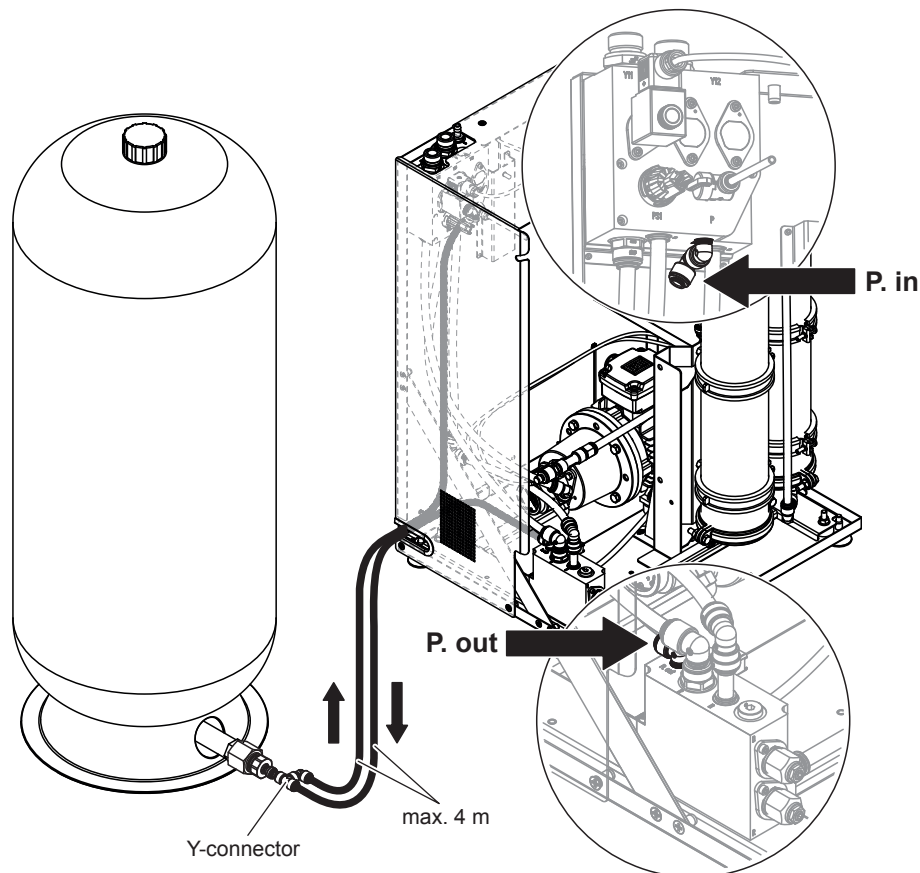
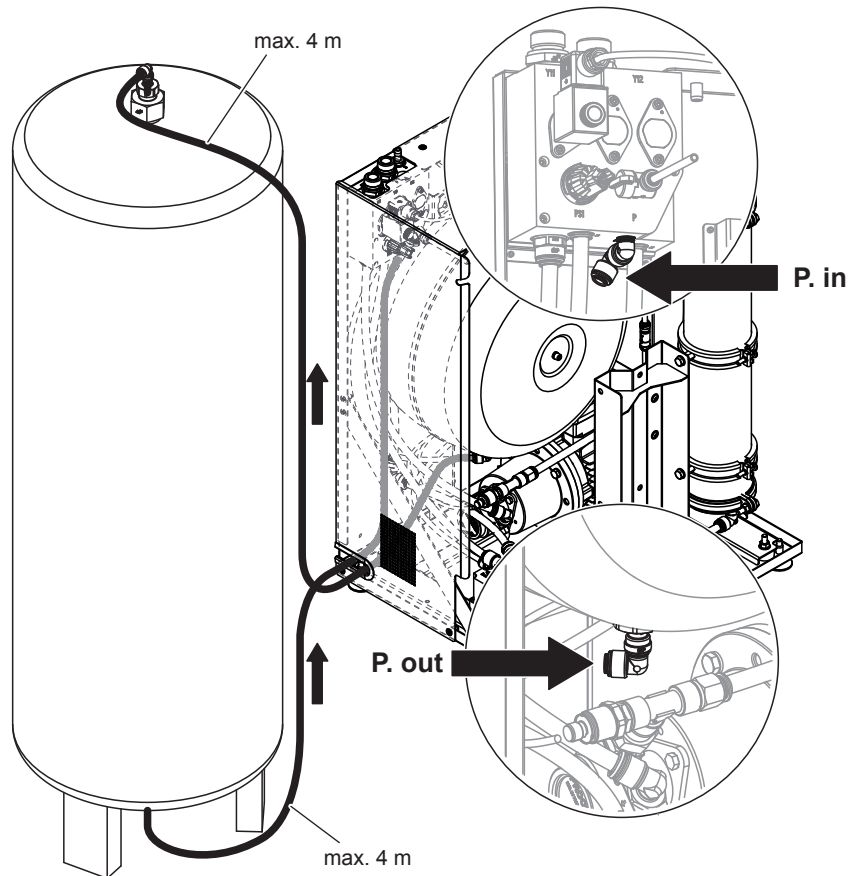
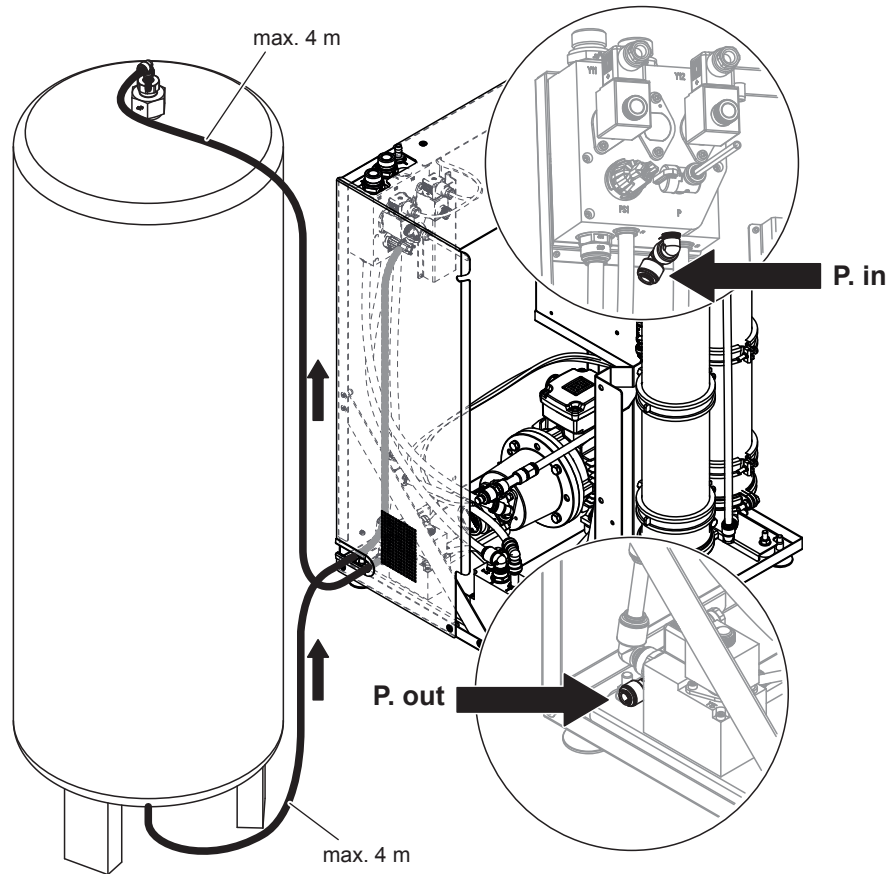
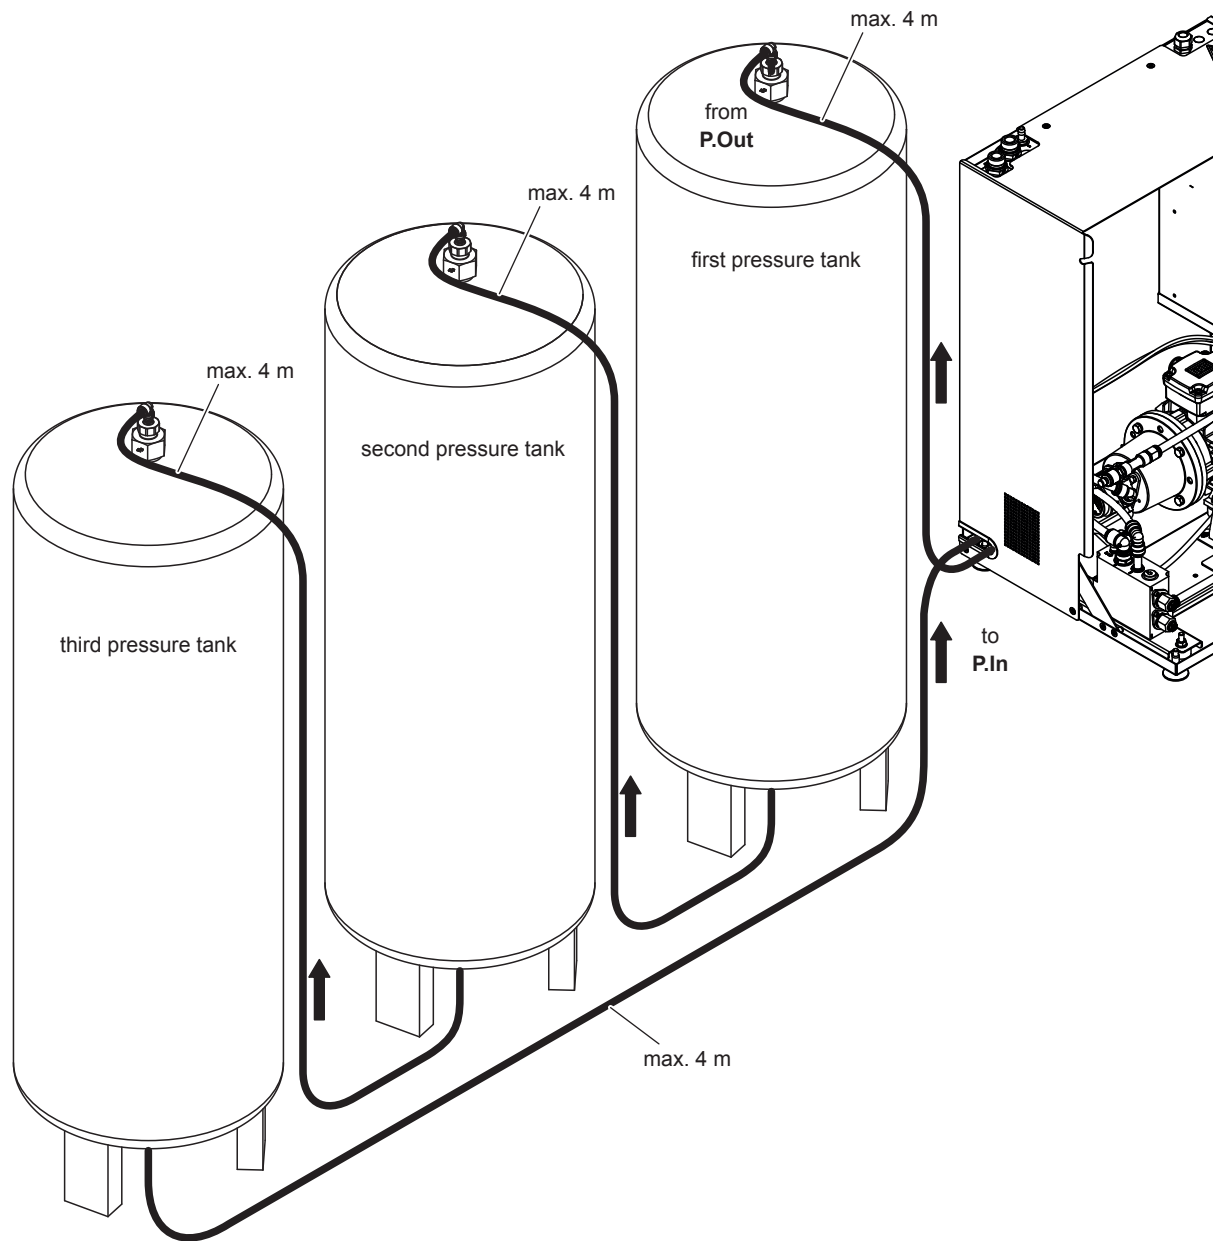

Fig. 23: Connecting the external pressure tank to the Condair RO-E 200/300 pure water system (figure shows RO-E 200)
Fig. 24: Connecting the optional external pressure tank to the Condair RO-E+ 40/100 pure water system with internal pressure tank (figure shows RO-E+ 100)
Fig. 25: Connecting the external pressure tank to the Condair RO-E+ 200/300 pure water system (figure shows RO-E+ 200)
Fig. 26: Connecting several external pressure tanks to the Condair RO-E(+) pure water system
- The length of the connecting hoses should be kept as short as possible. The maximum hose lengths shown in Fig. 23 to Fig. 26 must not be exceeded.
- Make sure that the connecting hoses are not routed higher than the "P. in" connection inside the Condair RO-E 200/300 pure water system (see Fig. 23) or higher than the connection at the top of the external pressure tank of the Condair RO-E(+) pure water systems (see Fig. 24 to Fig. 26).
4. **On Condair RO-E 200/300:** Connect the supplied black JG hose $\varnothing 8$ mm to the angle connector of the "P. out" port on the logic block (see Fig. 23). Route the hose to one of the ports on the Y-adapter on the external pressure tank. Cut the hose to length and connect it to the pressure tank's Y-adapter.
On Condair RO-E+ 40-300: Connect the supplied black JG hose $\varnothing 8$ mm to the angle connector of the internal pressure tank (see Fig. 24) or of the "P. out" connection of the logic block (see Fig. 25). Lead the hose to the **upper** connection on the (first) external pressure tank, cut the hose to length and connect it to the angle connector of the pressure tank.
- On Condair RO-E 200/300:** Connect the supplied black JG hose $\varnothing 8$ mm to the angle connector of the "P. in" port on the inlet valve block (see Fig. 23). Route the hose to the second, unused port of the Y-adapter on the external pressure tank. Cut the hose to length and connect it to the Y-adapter.
On Condair RO-E+ 40-300: Connect JG hose $\varnothing 8$ mm to the angle connector of the "P. in" connection of the inlet valve block (see Fig. 24 or Fig. 25). Lead the hose to the **lower** connection on the (last) external pressure tank, cut the hose to length and connect it to the angle connector of the pressure tank.
Up to three external pressure tanks can be connected to a RO-E+ pure water systems according to the schematic diagram shown in Fig. 26.